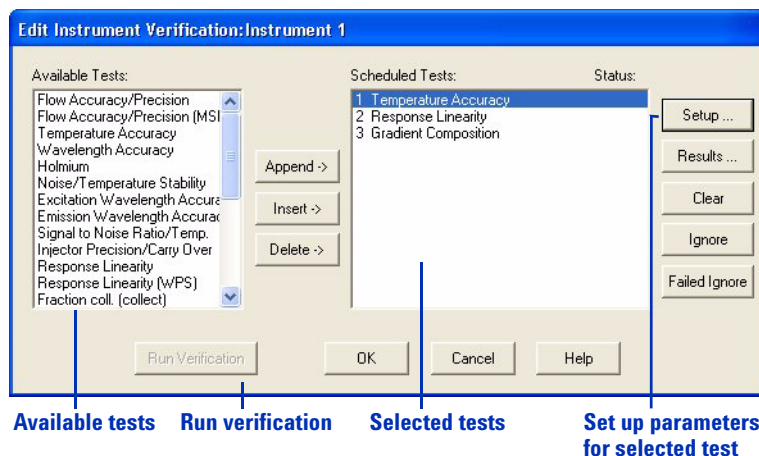

Figure 56 The Edit Instrument Verification dialog box lets you determine the specific tests and their order.
- Select **File > New** or **File > Open** to display the dialog box shown in Figure 56.
When you set up a new instrument verification, open an existing instrument verification, or edit the current instrument verification, the Edit Instrument Verification dialog box shown in Figure 56 is displayed.
The **Setup** button in Figure 56 is very important. When you click a scheduled test and click **Setup**, the dialog box that is specific to that test is displayed. Within the dialog box, you have the opportunity to: